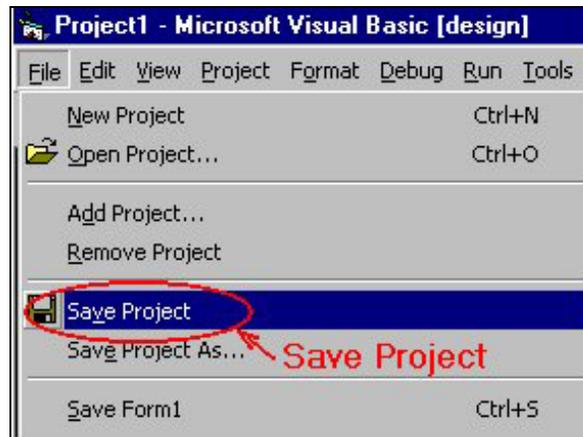

Figure 1-1-3. Save Project
4. Save your project into the folder that you previously created. Refer to Figures 1-1-3 to 1-1-5.